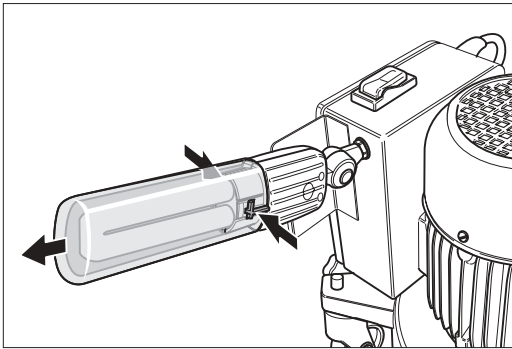

Fig. 81: Press the two clips on the fixture housing together and then remove the fluorescent tube **carefully**.
- 4 On the plastic fixture housing of the working lamp, press the two clips together that hold the fluorescent tube and then remove the fluorescent tube carefully (Fig. 81).